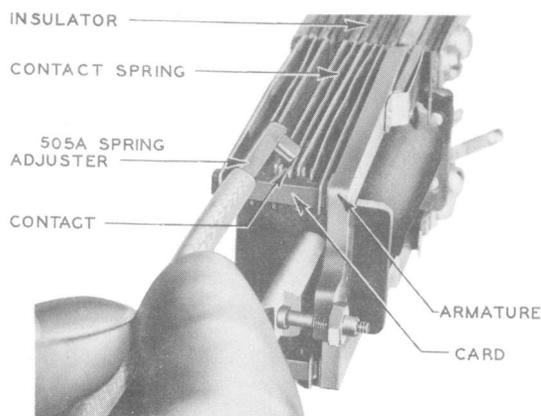

Fig. 15—Method of Applying Spring Adjuster for Adjusting Spring Tension
(5) To adjust a spring for tension, place the slotted portion of the spring adjuster against the spring to be adjusted on the side toward the mating spring just behind the contacts as shown in Fig. 15. Tilt the adjuster so it rests on the mating spring and, using this spring as a guide, slide the adjuster back to the base of the spring. Roll the adjuster over the spring to be adjusted so the spring fits into the slot in the adjuster. When adjusting a balancing spring, use an adjacent spring as a guide. Adjust the moving spring of make contacts away from the armature and the moving spring of break contacts toward the armature. Adjust the balancing springs adjacent to the armature toward the armature and the balancing springs at the extreme left of the card adjacent to the No. 1 contact spring either toward or away from the armature as required. Adjust all stationary springs toward the armature. Do not adjust the spring any more than is necessary since repeated adjustments may injure the spring. Take care when adjusting the springs to adjust them in line with their movement and to avoid tilting. Tilted contact springs cause unequal contact separation of the two pairs of contacts and may result in the failure of one of the contacts on the bifurcated spring to close. If the requirements cannot be met in the above manner, refer the matter to the supervisor.